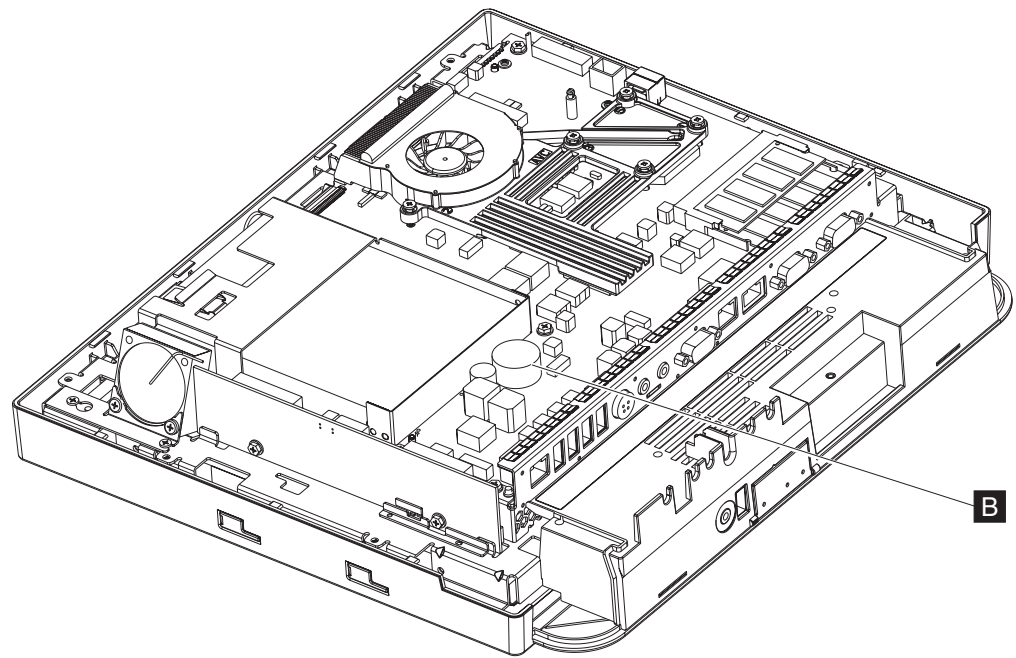

Figure 31. View of battery
3. Locate the battery on the system board (**B** in Figure 31).